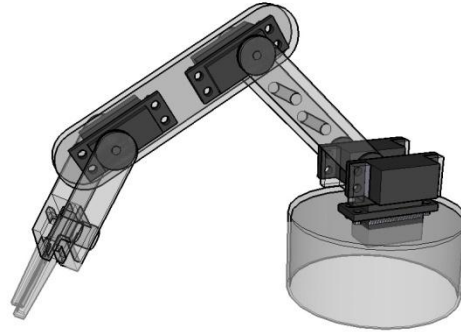

Figure 1: Robot Manipulator
- (c) The manipulator of an industrial robot is constructed of a series of links and joints as shown in **Figure 1**. Discuss the importance of links and joints.